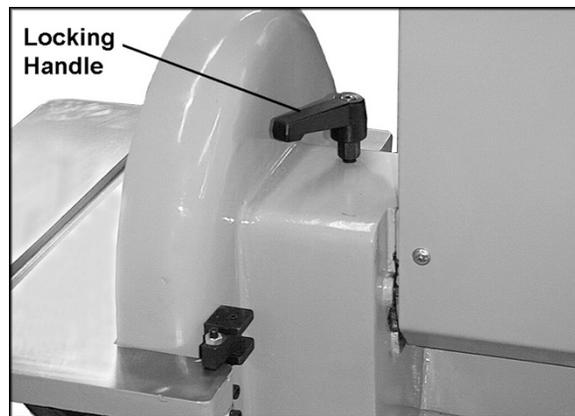

Figure 18
1. Loosen the *locking handle* shown in Figure 18.
4. Re-tighten locking handle (Figure 18).